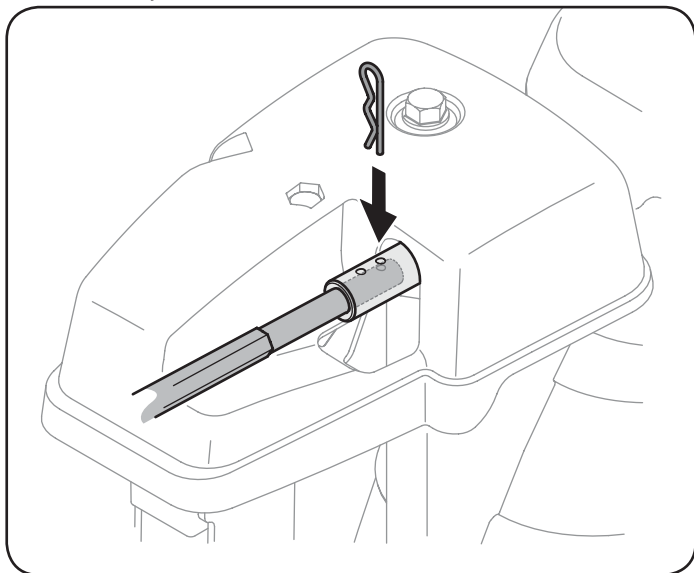

Figure 10
- Secure the round end of the chute control rod to the chute control assembly with the cotter pin removed earlier. See Figure 10.